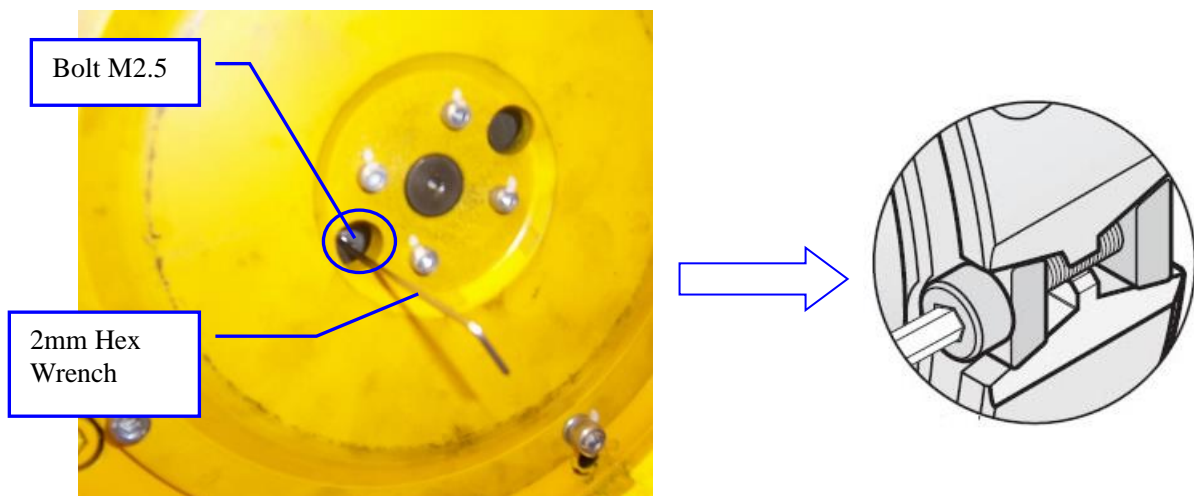

Figure 9: Loosen M2.5 locking screw
Note: To determine if the machine has a front mount encoder or a rear mount encoder rotate the sheave so the encoder locking screw should be visible through the encoder cover as shown in Figure 9. If the locking screw is not visible, the encoder is a rear mount encoder.
1. Rotate the machine so that the encoder locking screw is visible from the access hole on the encoder cover, as shown in Figure 9.
2. Loosen the encoder locking screw M2.5, as shown in Figure 9, with hex wrench (2mm) through the encoder cover hole. The screw does not need to be removed.